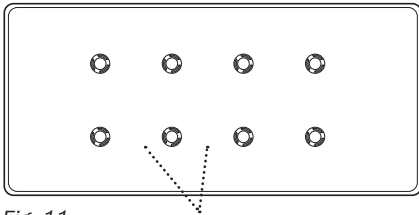

Fig. 11 Ventilation Holes
**PLEASE NOTE: The pole holes are not to be confused with ventilation holes (Figs. 11 & 12).**